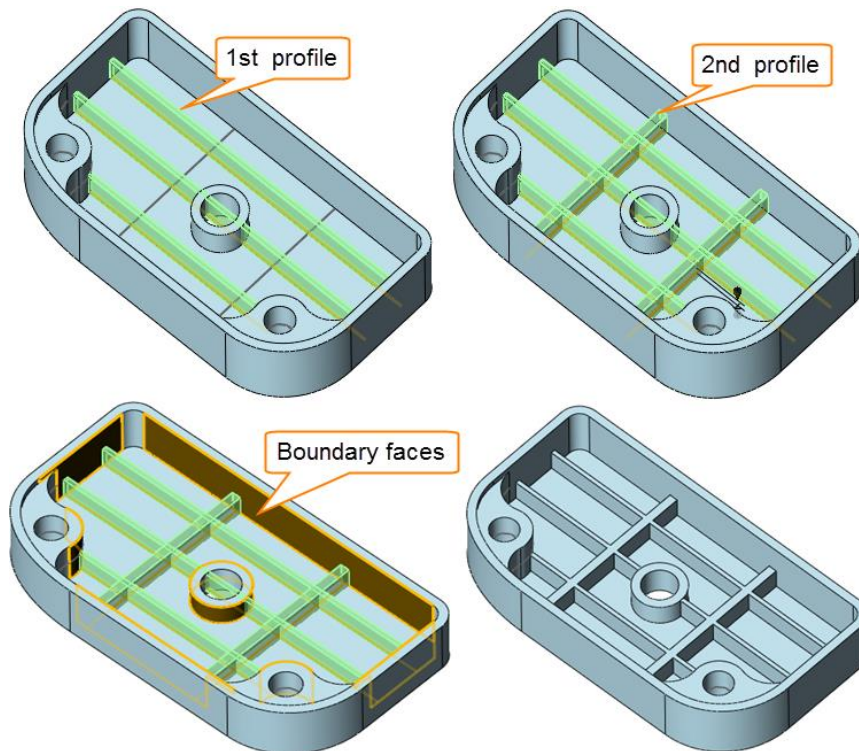

Figure 58 Rib Network
STEP 03 Select the inside faces as the rib boundary, as shown in the Figure58.